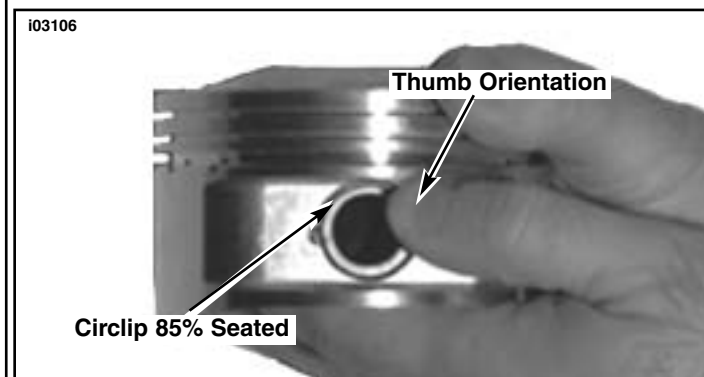

Figure 3.
2. See Figure 3. Using thumb oriented as shown, press firmly until approximately 85% of circlip is seated.